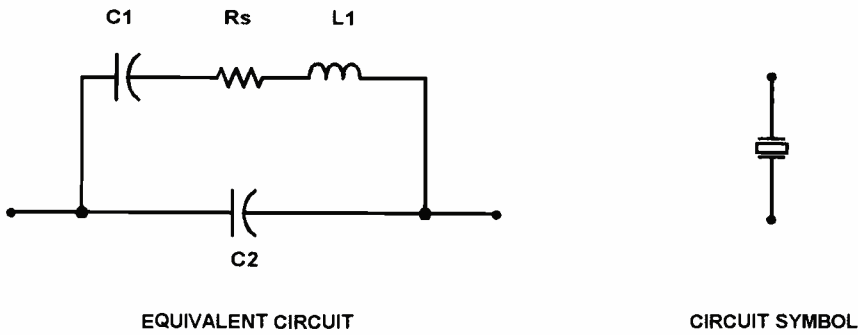

FIG 2
Fig. 2. A Leyden jar consists of a condenser (a glass jar) having a wide mouth coated with tinfoil, both on the inside and outside, and extending a few inches below the top. The mouth of the jar is usually closed by a piece of dry wood through which a metal rod is extended, reaching to the inner coating of tinfoil, as shown in "B" above.
**The Leyden Jar.** The next important advance in the early study of electricity was made in 1745 with the invention of the Leyden jar, shown in Fig. 2. Basically the Leyden jar is a condenser that was made using a glass jar having a wide mouth coated with tinfoil, both on the inside and outside, and extending a few inches below the top. The mouth of the jar was usually closed by a piece of dry wood through which a metal rod extended, reaching to the inner coating of tinfoil, as shown in Fig 2B. The rod extending from the top had a small metal ball attached. Basically, the Leyden jar consisted of two con-
Figure 2 is an approximate equivalent circuit of a crystal. This circuit is a pretty good approximation near the crystal resonant frequency. It has two fundamental resonances, one series, the other parallel (anti-resonant). The crystal behaves as an inductor at certain frequencies, as well. In many crystals, the effective series inductance may be measured in henries, while the capacitance is a small fraction of a picofarad, and the resistance is in the 20Ω to 100Ω range.